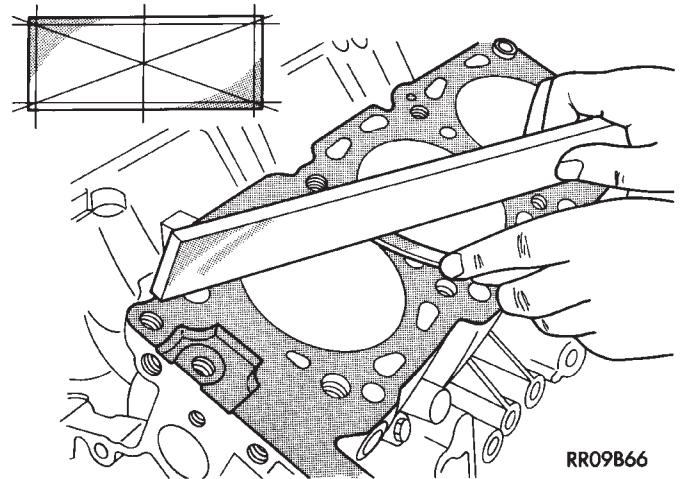

Fig. 16 Distortion Check
(1) Clean cylinder block and check top surface for distortion with a straight edge and thickness gauge (Fig. 16).
- (2) Top surface must be flat within: